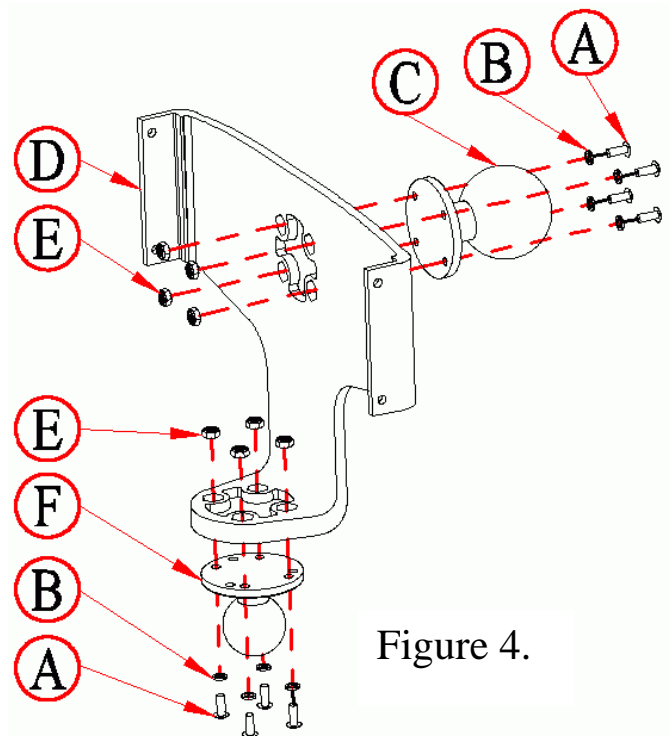

Figure 4.
Step 1: Install Mounting 4 hole Circular Base to Display Cradle: Place Screw (A) through Split/Lock Washer (B), Circular Base (C), Display Cradle (D) and affix to Nut (E). Four places (see Figure 4).
Step 2: Install Mounting 7 hole Circular Base to Display Cradle: Place Screw (A) through Split/Lock Washer (B), Circular Base (F), Display Cradle (D) and affix to Nut (E). Four places (see Figure 4).